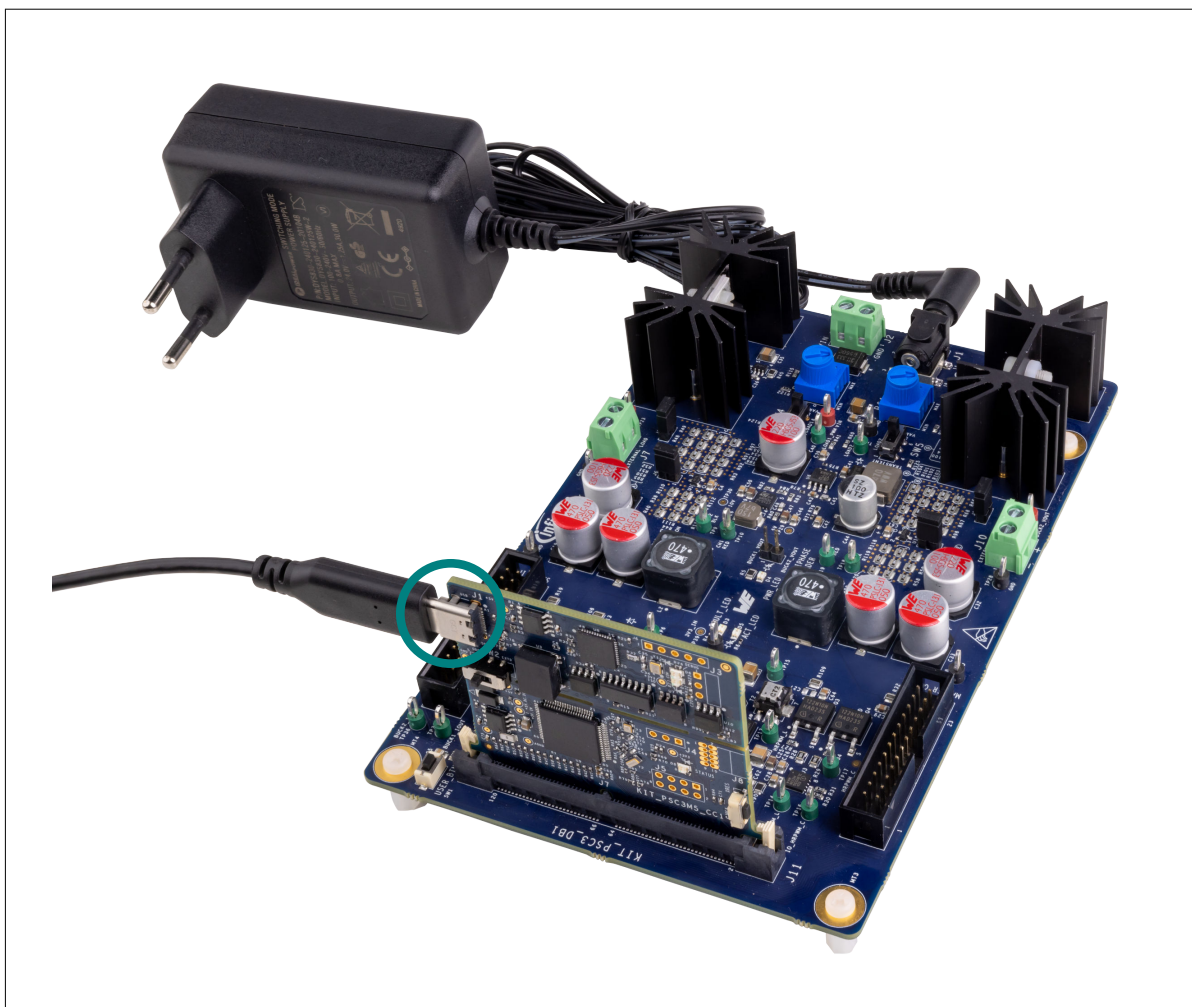

Figure 5 **Connect USB cable to USB connector on the Control Card**
1. Connect the board to the PC using the provided USB cable through the J-Link USB connector, as shown in Figure 5. It enumerates as a USB composite device if you are connecting it to your PC for the first time